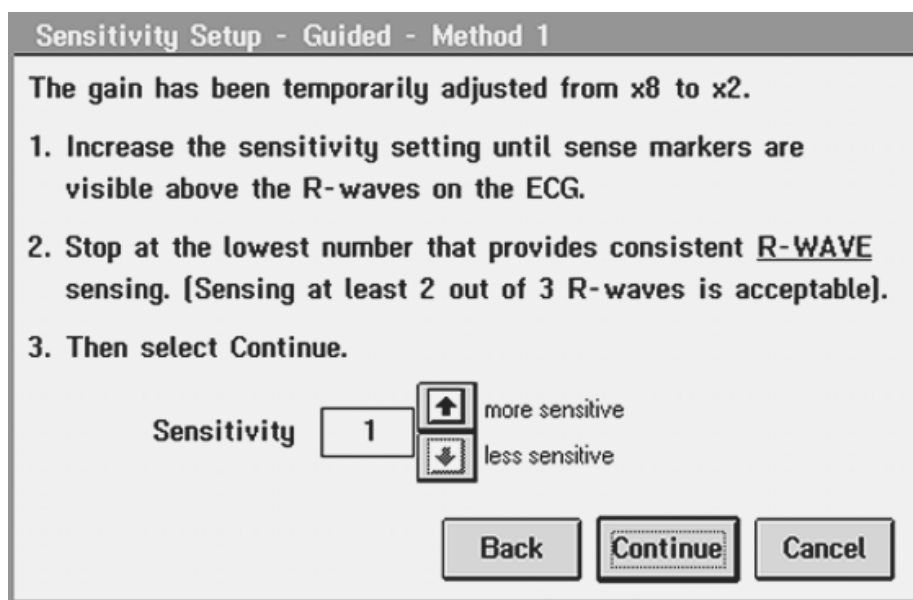

Figure 9. Sensitivity Setup - Guided - Method 1
1. The “Sensitivity Setup - Guided - Method 1” screen indicates that the programmer has temporarily adjusted the gain setting. Follow the instructions on the screen (see Figure 9) to adjust the sensitivity appropriately. Then press **[Continue]**.